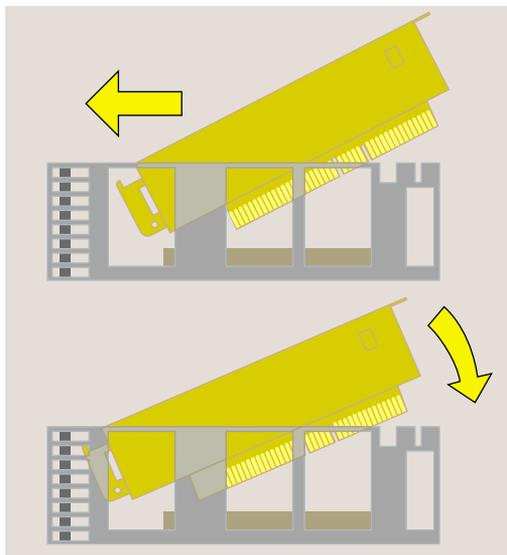

Figure 2-42 Replacing the PCI Tray in the System Module
2. Reinstall the PCI tray in the system module (Figure 2-42).